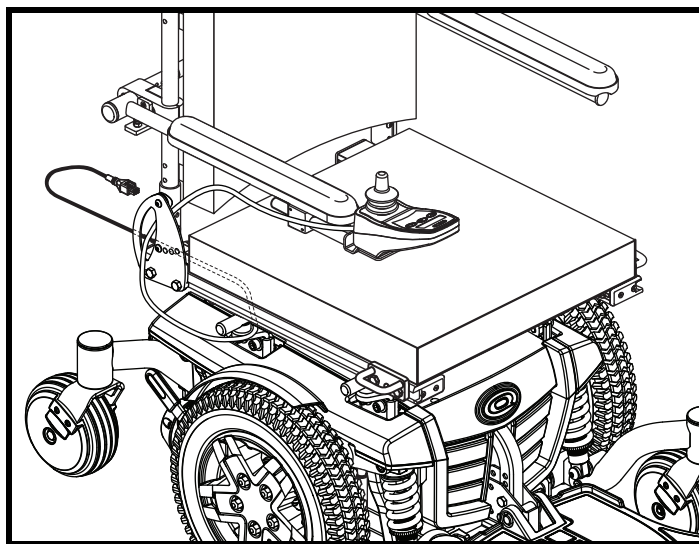

Figure 8. Controller Harness Routing on a Synergy Seat
4. Install the controller and route the harness to the back of the power base. See figures 8 or 10.